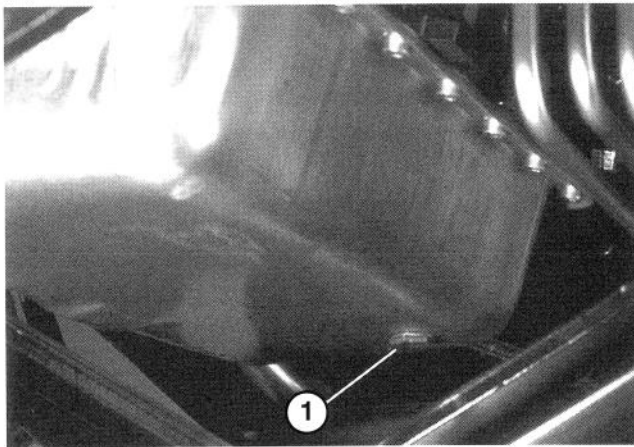

Figure 45
ENGINE OIL AND FILTER (Fig. 45–46)
1. Remove drain plug (Fig. 45) and let oil flow into drain pan. When oil stops, install drain plug and new plug seal, Part No. 74–7850.